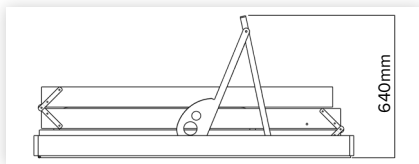

figure 2
- The area for the opening must be clear of wiring, plumbing and structural members such as beams and trusses with a minimum clear height above the ceiling of 640mm for R36 (figure 2).